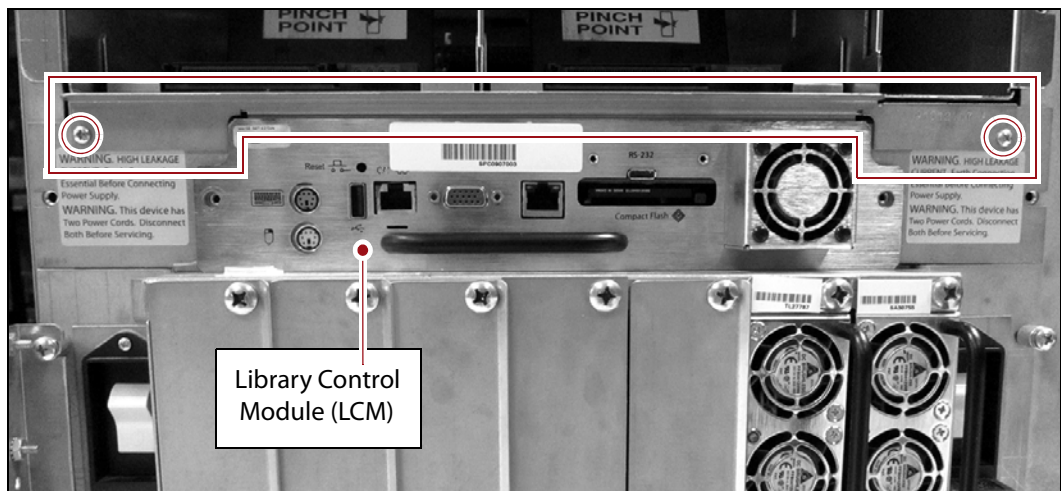

Figure 17 Remove the LCM shield from the library.
- c. Using a #2 Phillips screwdriver, install the two screws to secure the bracket to the library (see Figure 17 on page 14).